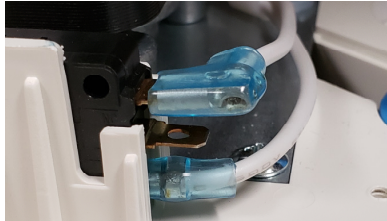

Fig. 4: High level float contacts in N.C. position
The high level float switch can be wired to be N.C. or N.O. in the NT1-P. It is factory wired to be OPEN (N.C.) on HIGH LEVEL. See figure 4 and 5 below. Disconnect the power before starting. The electrical ratings for the high level switch on the NT1-P are 125 or 250VAC 6A, 125V DC 0.4A, 250V DC 0.3A
1. Extend the two white wires from the high level float switch and push the cable through the strain relief fitting on control panel and connect wires to terminals 1 and 2 on terminal strip. Tighten strain relief nut to secure cable into panel. See figure 4 below.